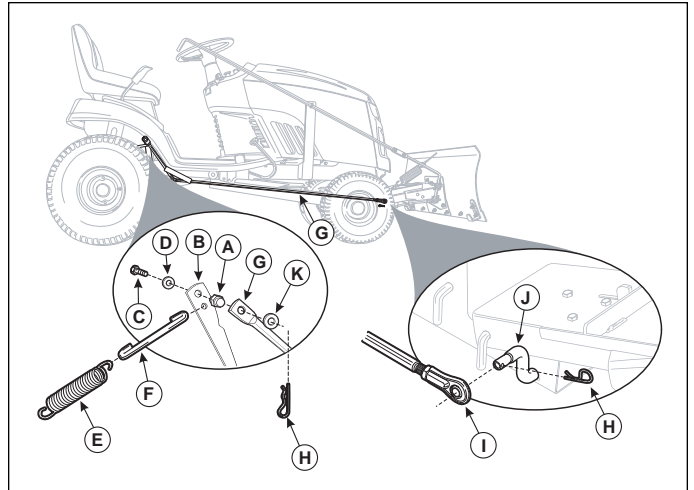

Figure 10. Belt Tension Lever
2. Install the brass stand-off (A, Figure 10) at the top of the mower deck lift arm (B), using bolt (C) and washer (D).
3. Install the lift assist spring (E) from the rear edge of the tractor frame to the brass "C" clip (F) on the mower deck lift arm (B), if not already installed.
4. Slide the snow blade lift arm (G) underneath the tractor and attach the lift arm to the stand-off (A). Secure the lift arm with the hair pin (H). NOTE: Make sure to position the washer (D) between the hair pin (H) and the lift arm (G).
5. Attach the lower ball joint (I) to the bell crank (J). Secure the lift arm with the hair pin (H).